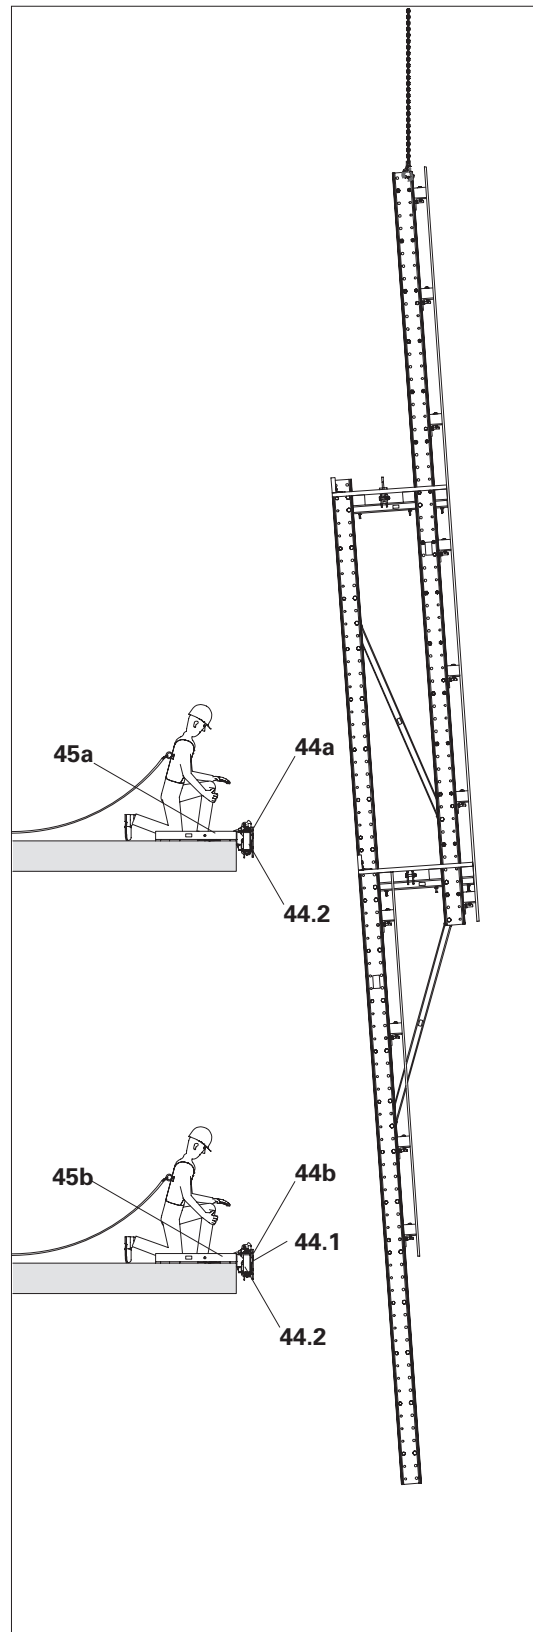

Fig. C4.03
5. Activate the climbing pawl of the top climbing shoe. See Section "Activating and deactivating the climbing pawl" on Page 122 (Fig. C4.03).